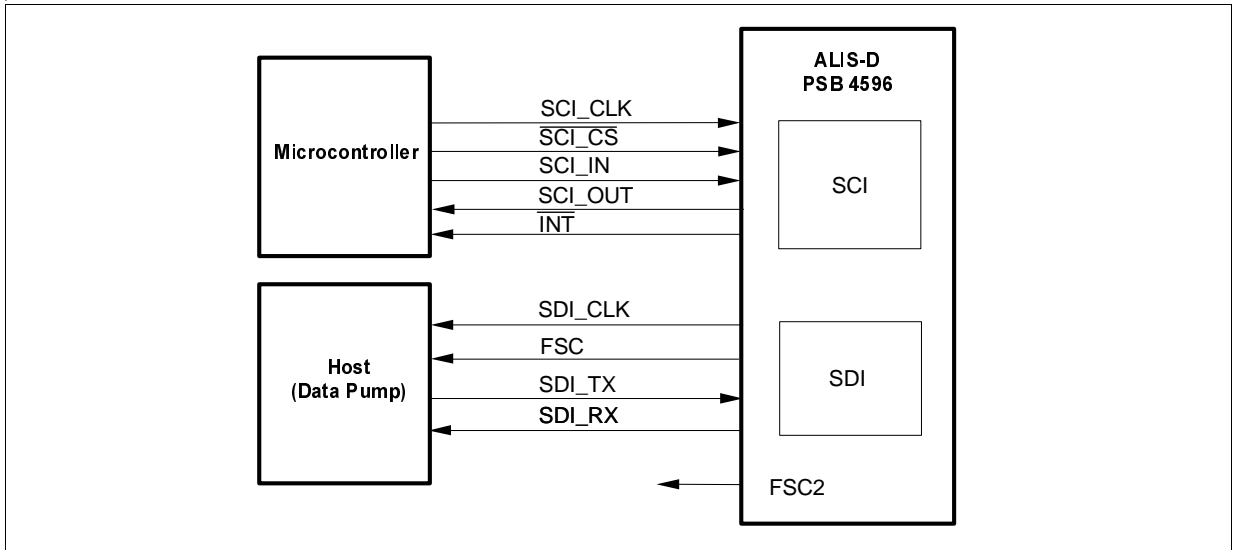

Figure 5-13 ALIS-D in Non-multiplex/Master Mode
Figure 5-13 shows the physical layout of the Non-multiplex Mode. The SDI is shown as configured for the ALIS-D acting as a Master device (see Table 5-3).
**Figure 5-13** shows one ALIS-D interfaced to a Host; however, it would be possible for multiple ALIS-Ds to share all SCI lines except for the SCI\_CS. As long as each chipset has its own chip select pin on the Host, it can be addressed individually.